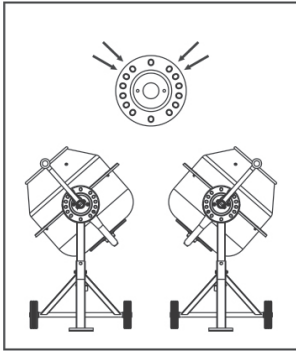

Fig.13
- Position the drum axis for loading mortar as shown in Figure 13.